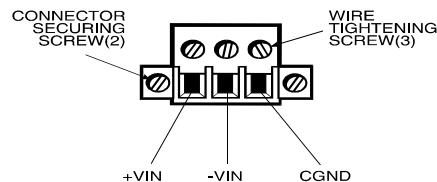

Figure 3-22. DC Power Connector
4. Insert the three wire ends of the power cable into the three holes of the block plug. Insert the Protective Earth GND ground, + (positive), and - (return) wires into the corresponding holes, as shown in Figure 3-22. Be sure that no bare wires are exposed.